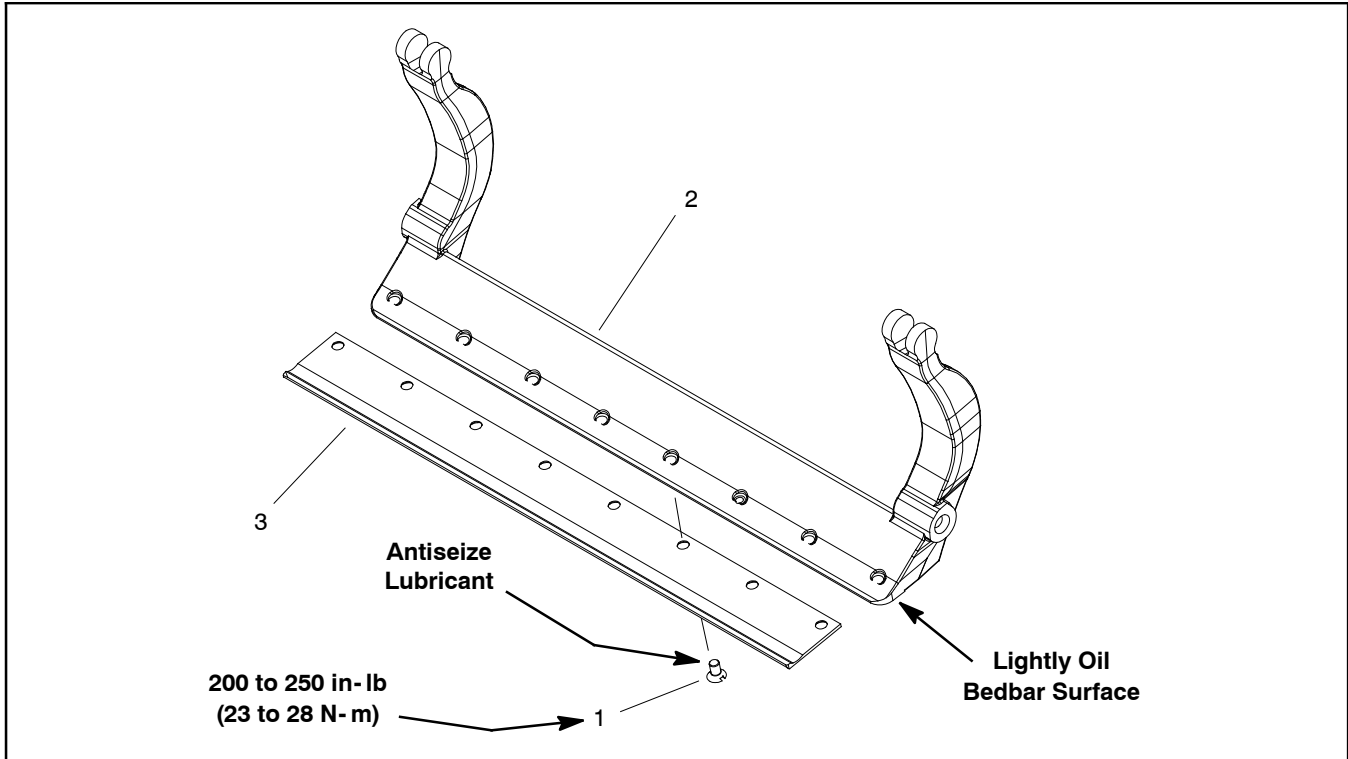

Figure 23
2. Remove screws from bedbar using a socket wrench and bedknife screw tool (see Special Tools in this chapter). Discard screws. Remove bedknife from the bedbar (Fig. 23).